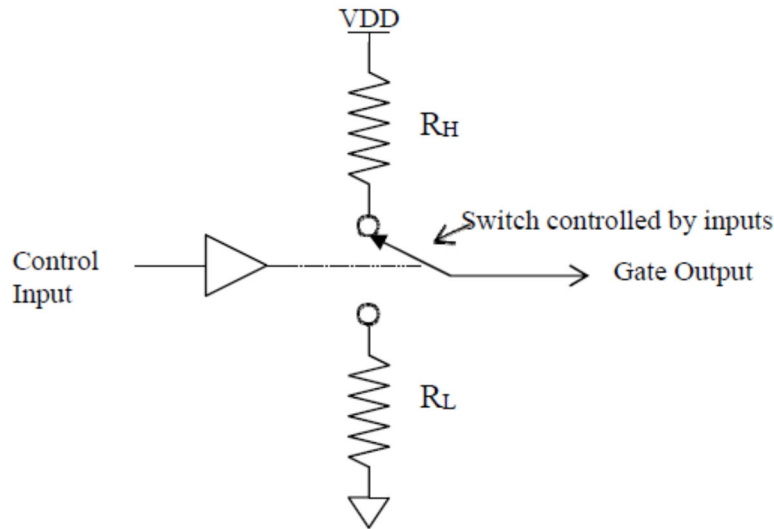

Figure 2-i: Simplified switch model for the output of a gate.
- 5) **Input DC Currents and the Effect of Unconnected Inputs:** Frequently, systems have unused gate inputs which need to be either '0' or '1' at all times. Making no connection to a pin may seem an economical way to get such a condition, but that can cause unanticipated problems. The purpose of these measurements is to determine the logic level of an unconnected input, if indeed it is determined at all, for a 74LS14 inverter and for a 74LVC04A (CMOS) inverter. The actual input current of an unconnected pin is identically zero. Begin by measuring the input current at full LOW and HIGH levels to see whether an open pin might be at either level. To do this for the 74LS14, connect a 510- Ω resistor from the input to GND and then reconnect it from input to VCC. Measure the voltage across the resistor with the multimeter. Be sure to observe the sign of the voltage (the direction of the current) as well as its value. (DO NOT MEASURE WITH A CURRENT RANGE OF THE MULTIMETER. USE A SERIES RESISTOR AS SHOWN IN FIG. 2-iii AND MEASURE THE VOLTAGE ACROSS IT. Invariably you will end up damaging the meter if you use its current range.) One can also measure the logic level associated with an open connection by measuring the *output* of a gate with no input connected and inferring the input state. For the 74LS14, also measure the voltage at its input with nothing but the voltmeter connected to that input as a rough measure of the unconnected voltage. It is sufficient for the 74LS14 to do these measurements only once.
- 7) **Power and Uncommitted Inputs with CMOS Gates:** Connect your 25 k Ω potentiometer so it can set the input voltage to the single isolated gate of the 74LVC04A hex inverter using the circuit in Figure 2-iv. Ground the input to the chain of other gates in that package. (See comments above and in Lab 6 on the wiring of this device.) Use the 3.3 V supply for this measurement. This setup allows you to adjust the input voltage to any value from 0 to VDD and to measure the power dissipation at the same time. Use a sense resistor of 100 Ω . Rotate the pot slowly from one end to the other and record the maximum current in to the gate. Make a crude plot of current, I_{DD} , versus input voltage. Estimate the input voltages that make I_{DD} approximately half of the peak value.
- 8) **Fan-out Limitations:** Figure 2-i shows a simplified model of the output of an inverter based on an electrically controlled switch and two resistors. The resistors mimic the change in output voltage with output current. This model is not very good for TTL gates because their transistors do not obey Ohm's law. However, it is a reasonable approximation for CMOS gates. R_L and R_H are the on-resistances of the nMOS and pMOS output transistors respectively. The model is good enough that we will use it for you to find an upper limit on fan-out from your 74ACT04 to TTL gates like the 74LS14.
Measure R_L and R_H for one section of a 74ACT04. Probably the most reliable method is to connect a resistor ($\approx 510 \Omega$) from output to ground, put the output in the logic HIGH state, and measure the potential difference between the V_{CC} and the output pins. From this you calculate R_H using Ohm's law. A similar arrangement but with the output LOW and the resistor between the output and V_{CC} will give R_L . The internal resistances shown in Figure 2-i will limit the amount of current that your chip can handle before noise margins are compromised.